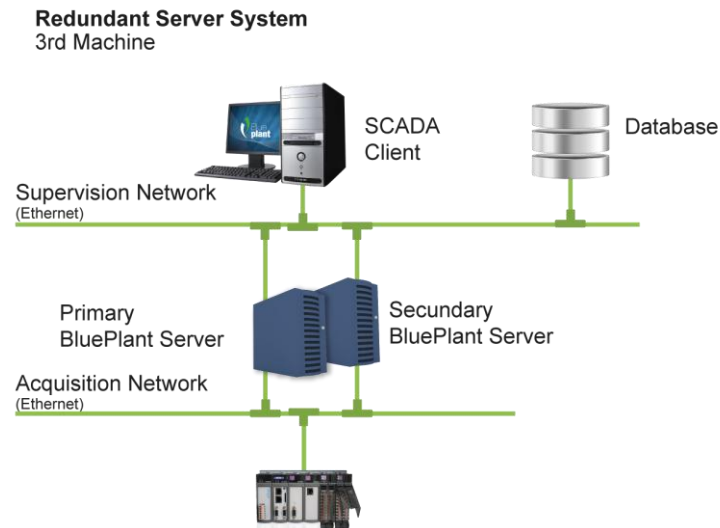

Figure 7-4. Redundant Server System
- The Alarm and/or Historian database running on a third machine dedicated to historical data, according to Figure 7-4;